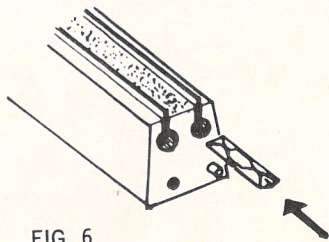

FIG. 6
□ **STEP 11.** Now you are ready to assemble the track. The first thing to do is to insert the track clips into the track sections. Fit a brass track clip into one of the holes at the end of a section of track. See Fig. 6. Press the end of the clip firmly against a hard surface until the clip slides into the hole as far as it will go. Repeat with another clip in the second hole.